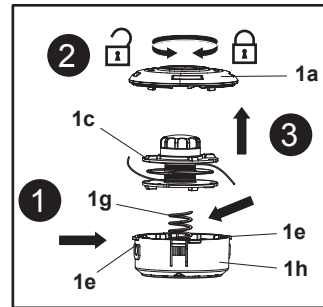

Fig. 56
5. Press the release latches (1 e) on both sides and hold them in position (Fig. 56, step 1), then rotate the cover (1a) anticlockwise to disengage it from the trimmer head (1) (Fig. 56, step 2).
6. Remove the cover (1 a) and the trimming spool (1 c) from the housing (1 h) (Fig. 56, step 3).